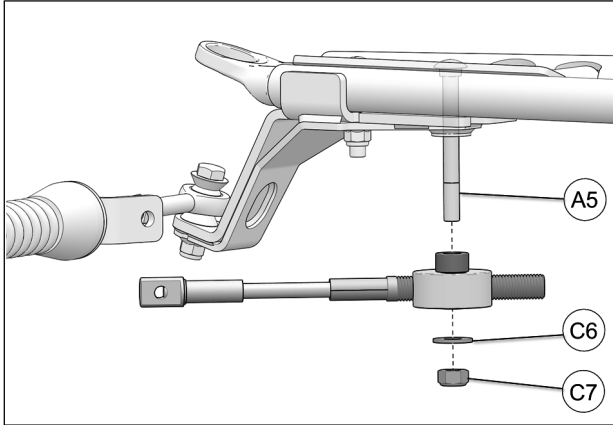

Fig. 22
11. Position steering limiter cable assembly under anchor bracket and slide it over bolt (A5) already inserted. Use washer (C6) and nut (C7) to secure assembly to anchor bracket. Tighten nut to 50 N•m [37 lb•ft]. Refer to Fig. 22